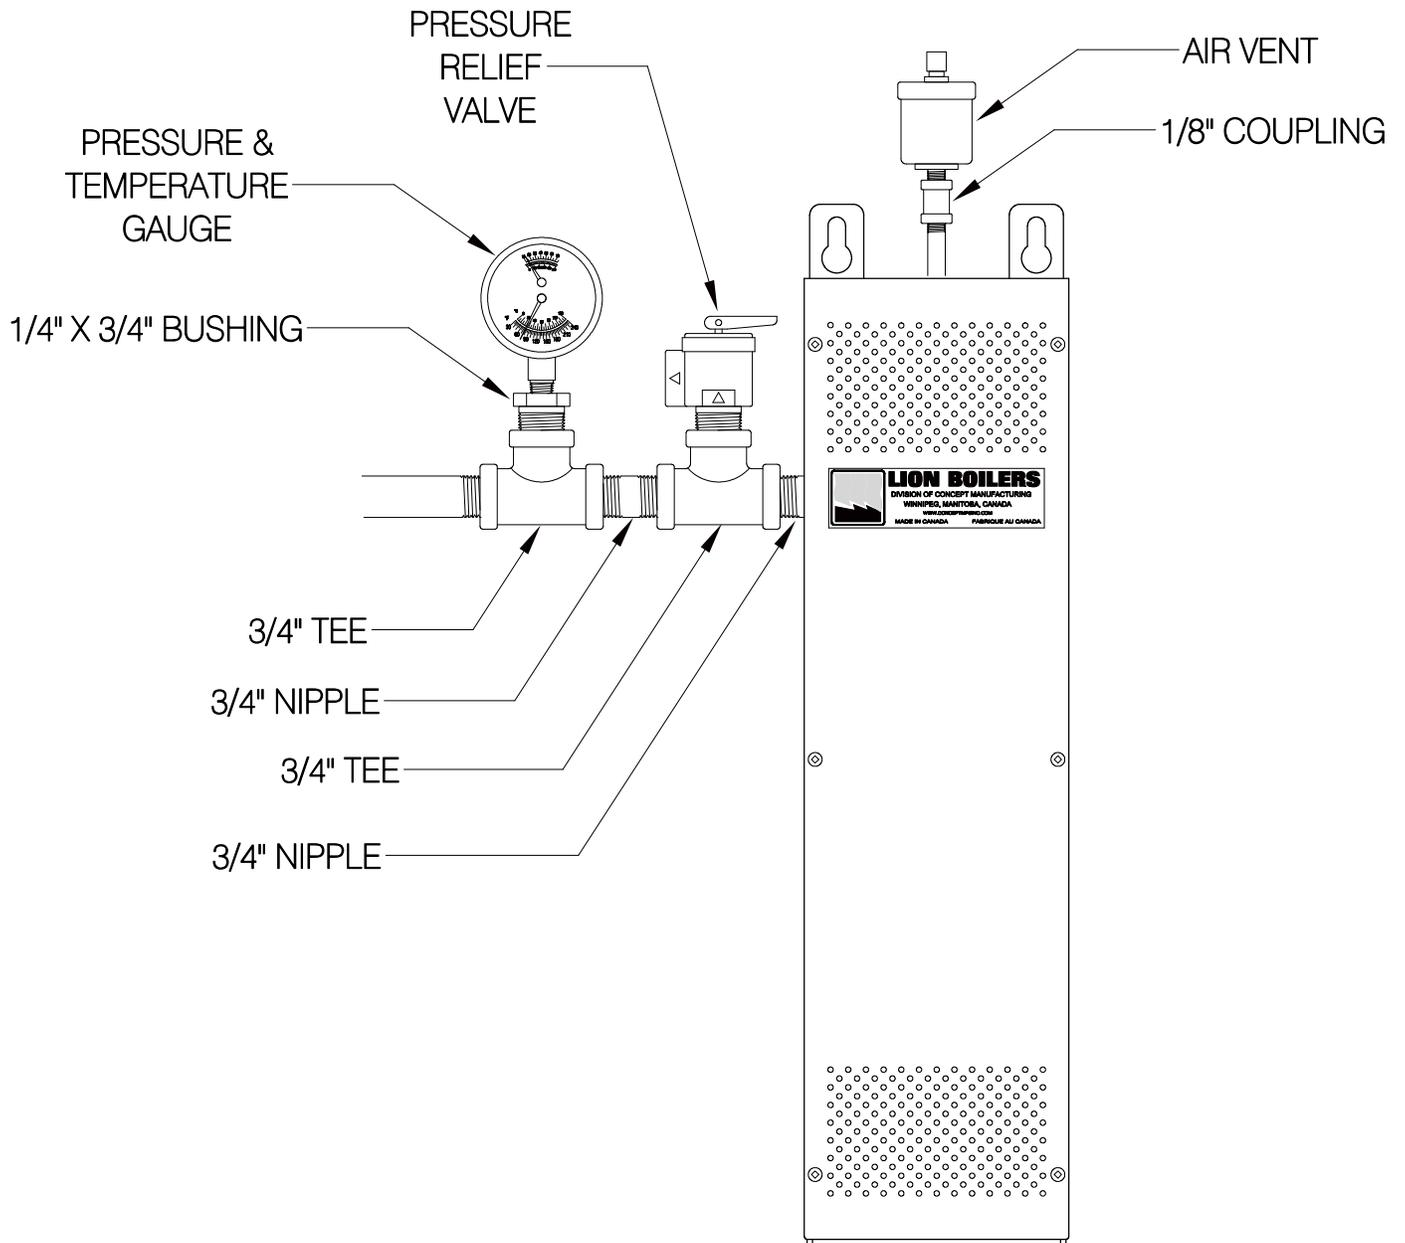
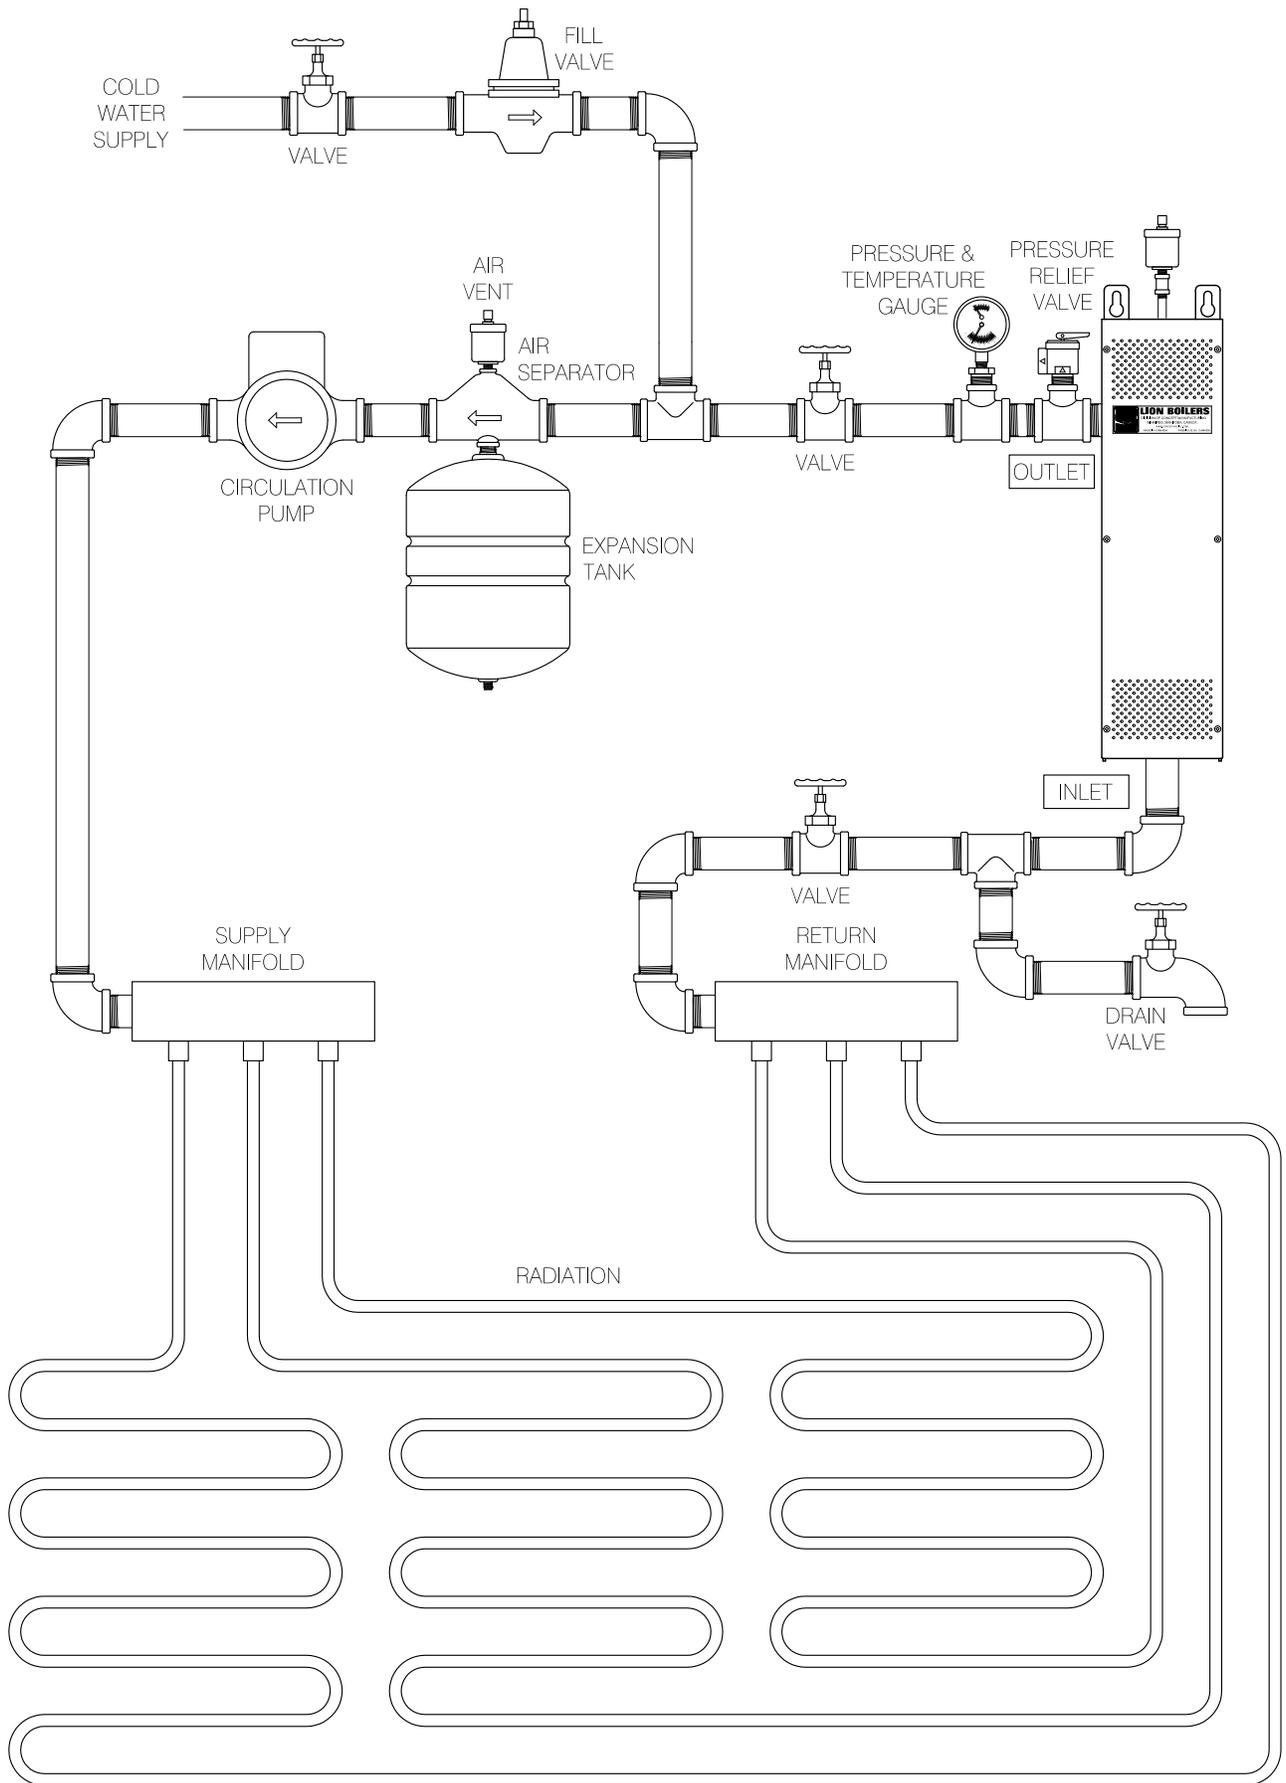

FIG. 1 BOILER COMPONENTS
FIG. 3 TYPICAL HEATING SYSTEM
- (5) The circulation pump should be connected to the outlet side of the boiler (see Fig. 3).
- (1) Refer to Fig. 3 for a typical system before installation.
- (2) Packed with your boiler are the following.
- (3) Mount unit as per instructions under “Location”
- (4) Install Pressure Relief Valve and Pressure & Temperature Gauge. These must be connected directly to the boiler as shown in Fig. 1
- (5) A discharge line must be attached to the outlet of the pressure relief valve. The discharge line will direct water or steam from the pressure relief valve should it open. The discharge line must be as short as possible, not have any valves or restrictions, not be smaller than the outlet of the pressure relief valve, slope downwards, and the end must be open to the atmosphere. The discharge line should terminate at a drain 6 inches above the floor level.
- (6) Install inlet and outlet piping.
- (7) An expansion tank must be installed (see Fig. 3) to allow for water expansion as the system is heated.
The circulation pump should be positioned as close to the boiler as possible, with the delivery arranged to pump out of the tank outlet on the upper left side of the boiler (see Fig. 3)